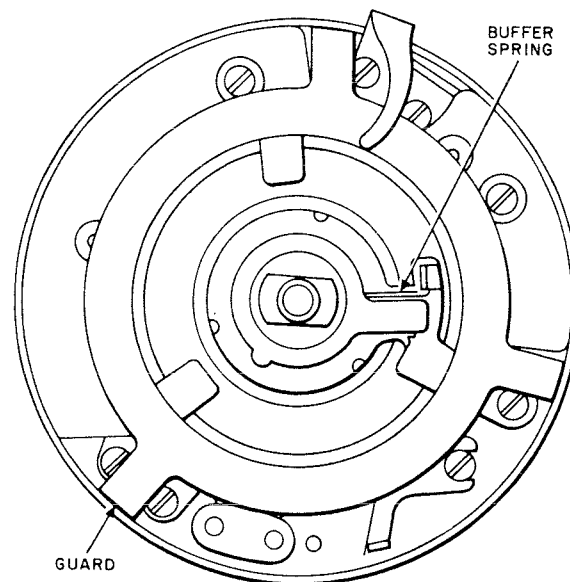

Fig. 10—5-Type Dial Showing Buffer Spring and Metal Guard
3.05 Parts of the dial shall not be broken or missing. (A broken buffer spring on a 5-type dial is permissible, Fig. 10.)